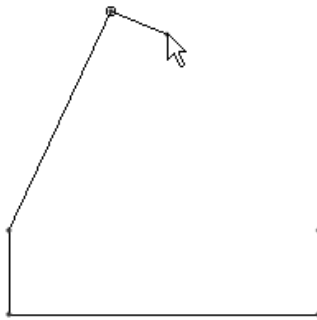

Figure 2-23 Partial sketch with left inclined line
- Draw lines by using the **Line** tool, refer to Figures 2-23 and 2-24.
- Move the cursor to size the line and specify the endpoint of the left inclined line, as shown in Figure 2-23.